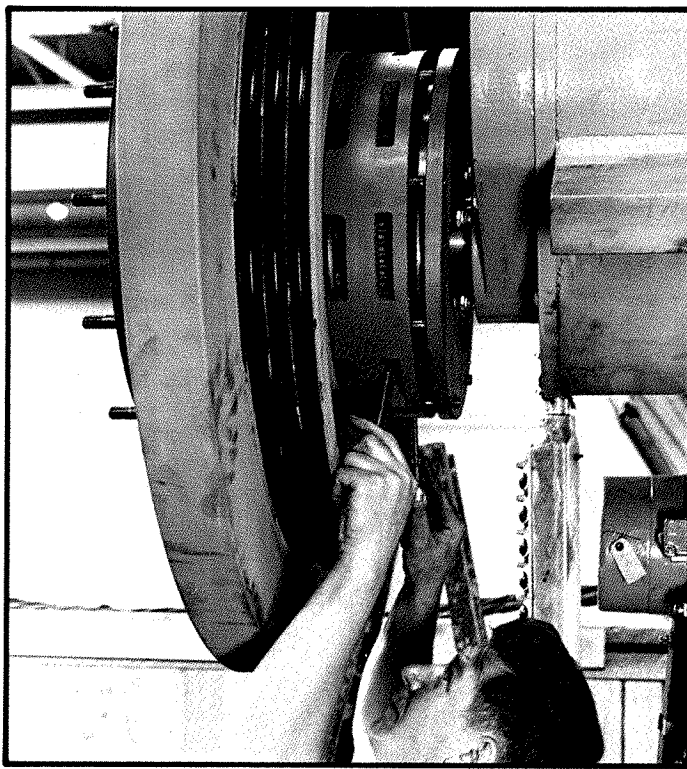

FIGURE 105
13. Lift flywheel and clutch assemblies in position, centering it on flywheel shaft. Slide flywheel on flywheel shaft until splines in low speed clutch disc "O" are near splines on low speed pinion "M". Be careful not to damage roller bearings in flywheel on splines on end of flywheel shaft. Position the clutch disc with a tool (not your hands) through the openings in the low speed clutch ring "U". See Figure 105. When the splines are aligned, carefully push the flywheel towards the housing until the ball bearing is seated against the washer on flywheel shaft. Remove the lifting device.